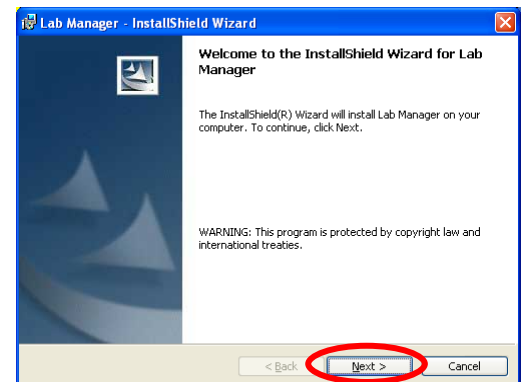

Fig 2
4. **InstallShield Wizard:** Click on the **Next** button to continue the installation. Fig 2.
3. **InstallShield Wizard:** Click on the **Next** button to continue the installation. Fig 2.